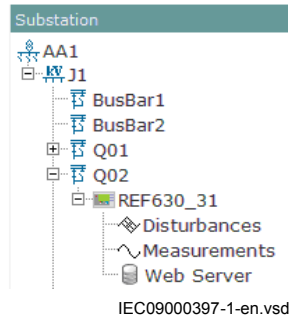

Figure 29: WEB Server available in COM600 substation view
2. After this, Web Server option is available in the COM600 Substation view and it opens the Web HMI for 630-series device, see Figure 29.